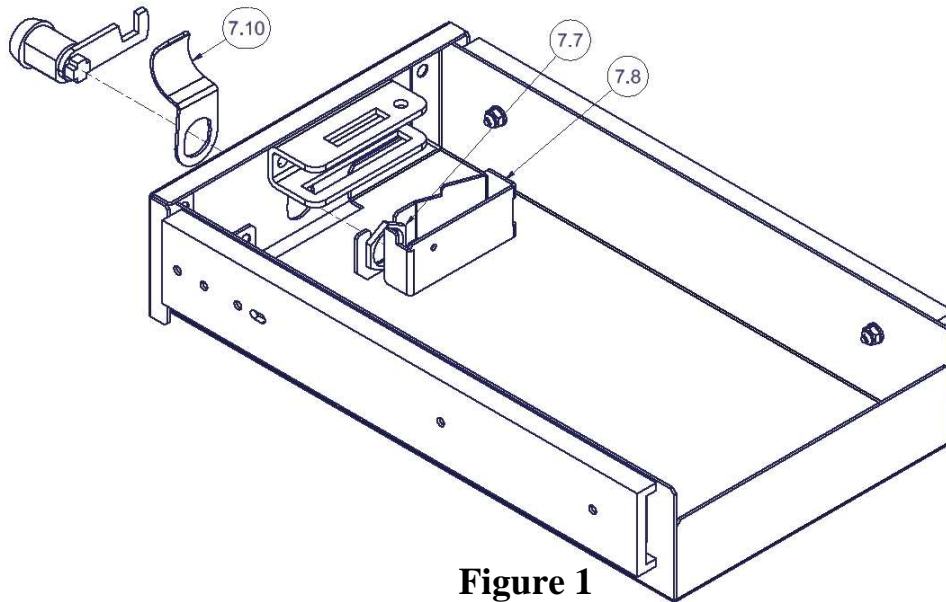

Figure 1
2. The Drawer is shipped with the #7.10 Finger Pull installed in the upward position. If you prefer, it may be oriented downward by removing the lock from the Drawer and inverting. This is done by removing the #7.7 brass Lock Retention Nut using a 7/8" end wrench(accessed from the slot below), removing the Nut and #7.8 Lock Cover(which may be bent out of the way once the Nut is loosened). Removing the Lock, inverting the Finger Pull, and reassembling. **Note:** Make sure the tab on the Lock Cover is inserted into the latch slot before tightening the Retention Nut during reassembly.(Figure 1)